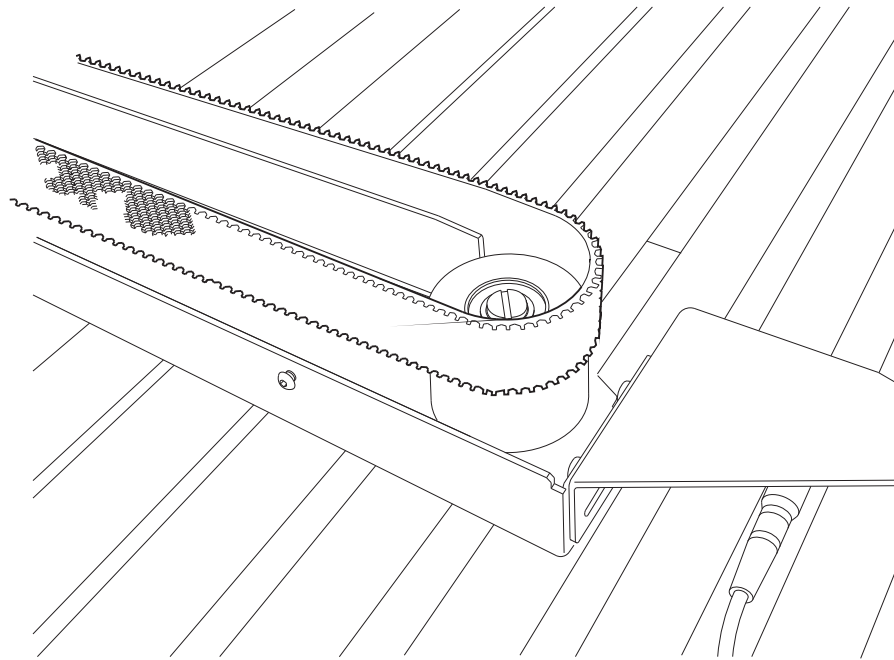

Figure 22 Install new belt
4. Install new belt. Install only bottom portion of belt as shown in figure 22. The spinning of the belt will automatically lower the belt in place.